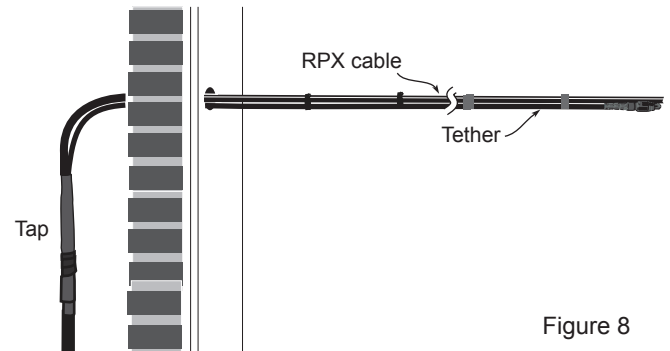

Figure 8
5.10 Feed the lead-in section of the RPX cable and tether through the hole drilled in the building wall (Figure 8).